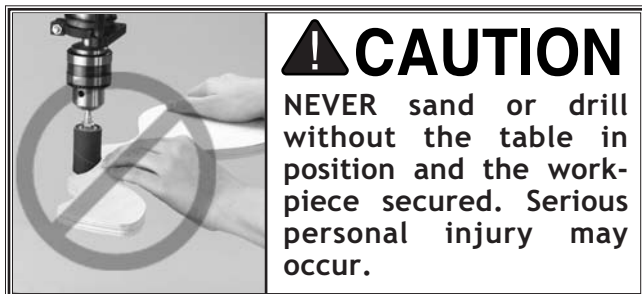

Figure 39. Sanding drum table insert.
7. Choose the insert that has an opening which is slightly bigger than the sanding drum chosen. See **Figure 39**.